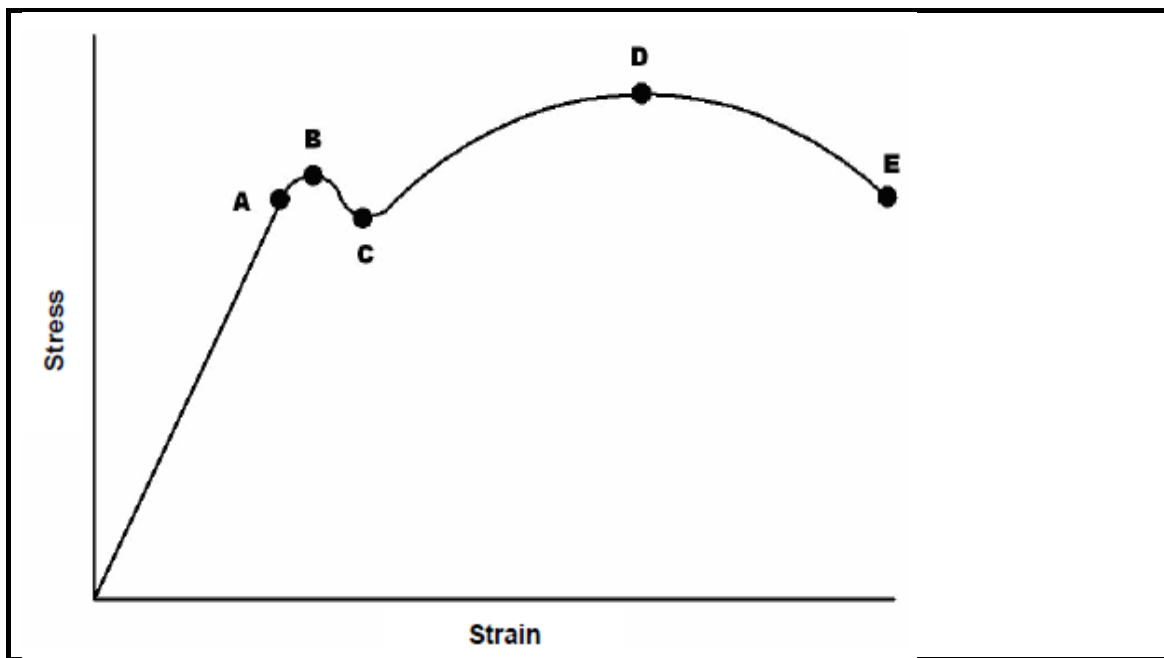

FIGURE 8.4
8.4 FIGURE 8.4 below is the stress/strain diagram.